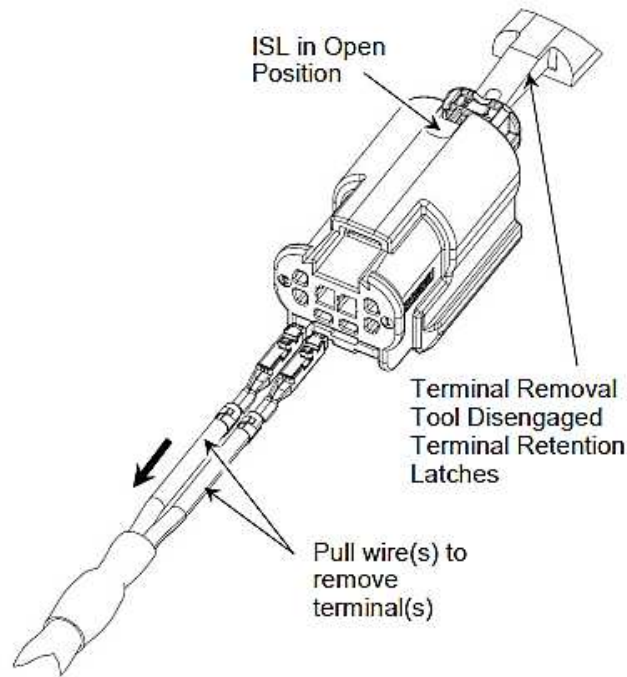

Figure 10
- iii. With the ISL in the open position and the terminal latches disengaged, use the wire(s) to pull the terminal(s) from the connector. See Figure 10